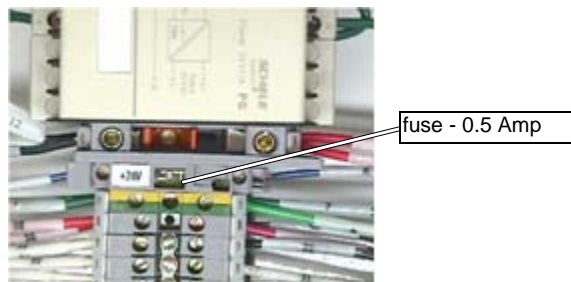

Figure 8-3: 24 VDC Power Supply Fuse Location
5. Check for a blown fuse (or no fuse) in the fuse holder on the DIN rail located directly below the 24 VDC power supply. When there is power from the 24 VDC power supply, the fuse holder's red LED lights to indicate a blown fuse. When blown, use an equivalent 0.5 Amp replacement. See Figure 8-3, 24 VDC Power Supply Fuse Location on page 8-3.
8. Check for a blown fuse or no fuse in the fuse holder on the DIN rail located below the 24 VDC power supply. If there is power from the 24 VDC power supply and the fuse holder's red LED is lit, a blown fuse is indicated. See Figure 8-3, 24 VDC Power Supply Fuse Location on page 8-3.